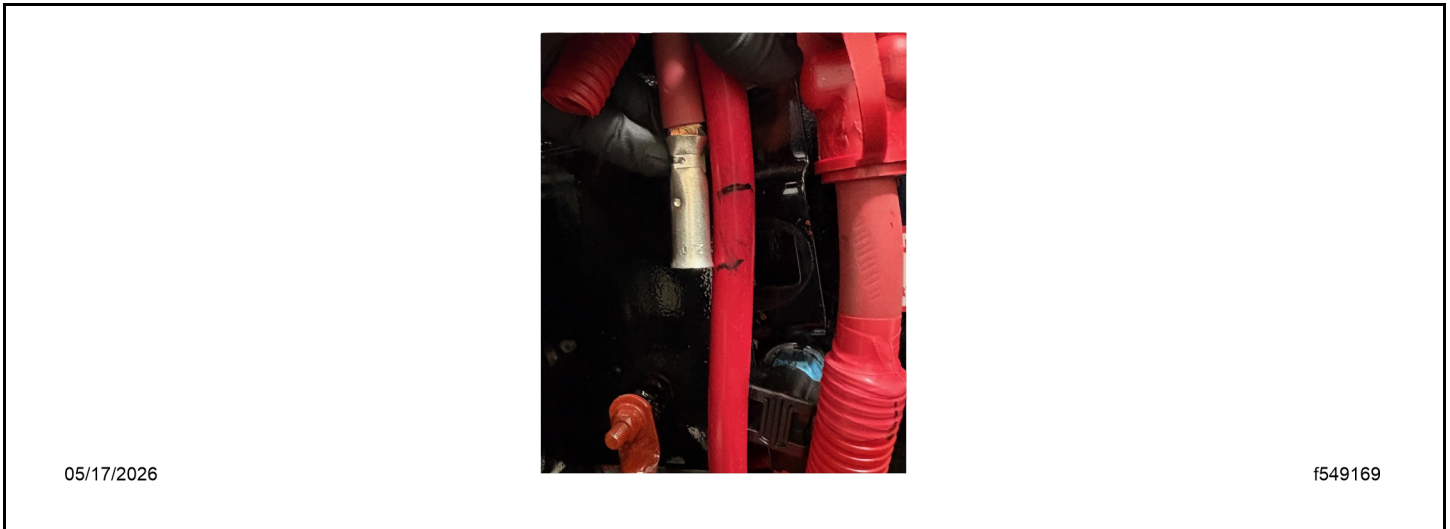

Fig 54, Determining the BCA Cable Length
29. Determine the ideal length for the new auxiliary BCA and starter cables between the starter and butt connector. Cut the cables. See Fig. Fig. 54.